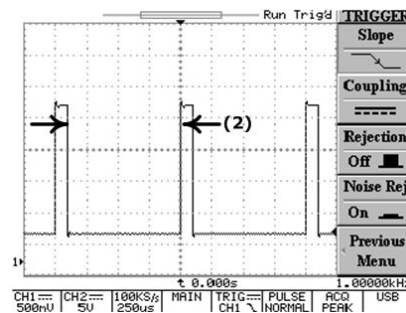

Figure 5-17: Pulse width trigger with negative polarity selected
(2): When negative polarity is selected, the trigger will take place on the low to high transition of the pulse if the compare condition is met. See figure 5-17